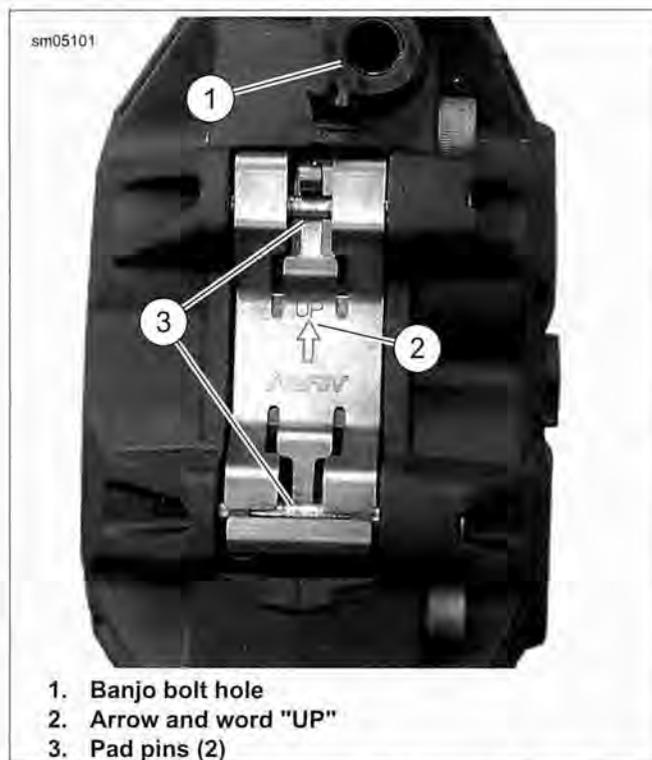

Figure 2-70. Front Caliper Pad Spring Orientation
6. See Figure 2-70. Install brake pads and pad spring. Verify the spring is oriented as shown with the arrow and word "UP" (2) facing the banjo bolt hole (1). Secure with pad pins (3).